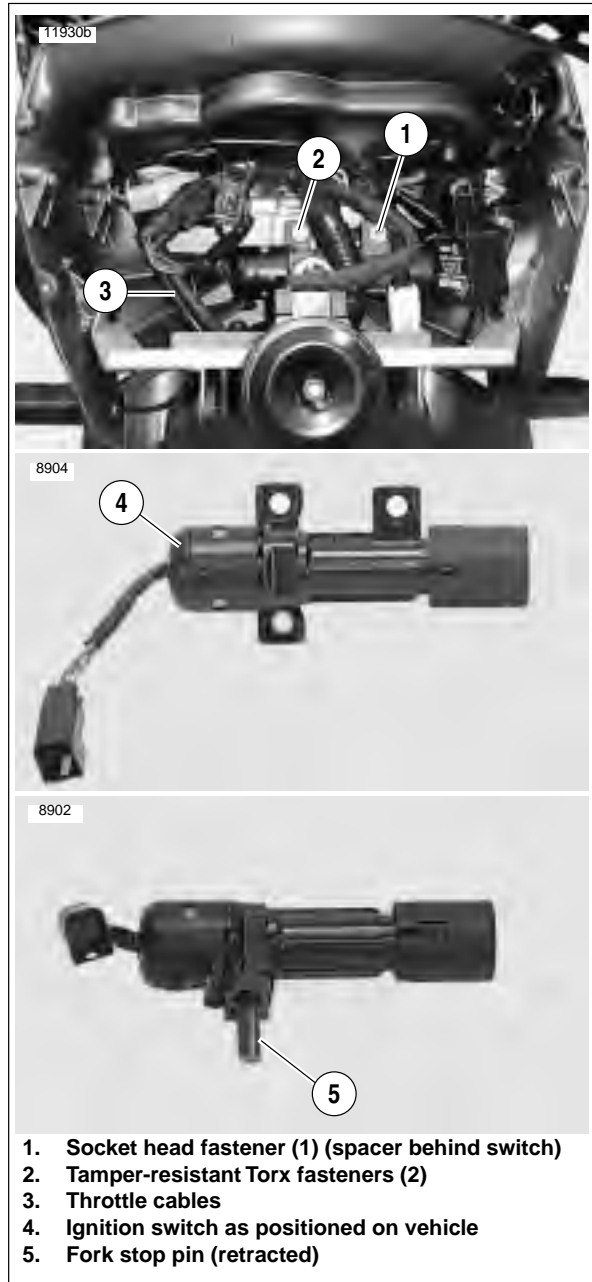
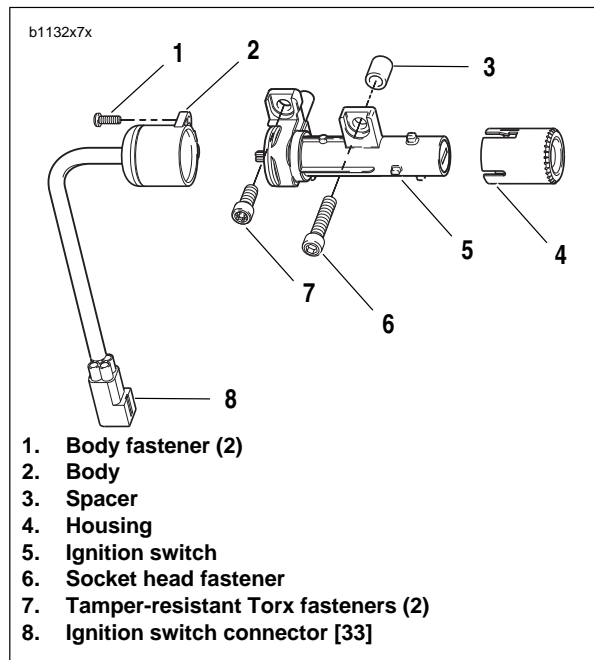

Figure 7-4. Ignition Switch (Typical)
Figure 7-5. Ignition Switch Assembly
5. See Figure 7-4. Use Snap-on Tamper-Resistant T45 Torx driver (Part No. FTXR45E) to remove the two tamper-resistant Torx fasteners (2) securing ignition switch to upper fork clamp.
6. Remove the final ignition switch fastener (1) along with spacer located behind the ignition switch.
7. While holding the throttle cables (3) to your left (the right side of the vehicle), pull the ignition switch (4) toward you and roll the assembly away from you until the fork stop pin (5) is pointing down.
1. See Figure 7-5. Remove ignition switch housing (4) from ignition switch (5) by prying tabs on side of housing
2. Remove ignition switch body fasteners (1). Separate ignition switch body (2) from ignition switch (5).
See Figure 7-5. In next step, be sure wide slot in ignition switch housing (4) is installed over wide boss on ignition switch (5).
1. Push ignition switch housing (4) on to ignition switch (5).
1. See Figure 7-4. While holding the throttle cables (3) to your left (the right side of the vehicle), slide the ignition switch assembly in to your right (the left side of the vehicle).
2. Install the ignition switch (4) with the fork stop pin (5) pointing down and, once in place, roll the assembly toward you and insert the fork stop pin into the upper triple clamp.
3. See Figure 7-5. After applying LOCTITE 271 (red) attach ignition switch assembly to upper triple clamp using ignition switch fasteners (6,7). Tighten to 18-20 ft-lbs (24.4-27.1 Nm).